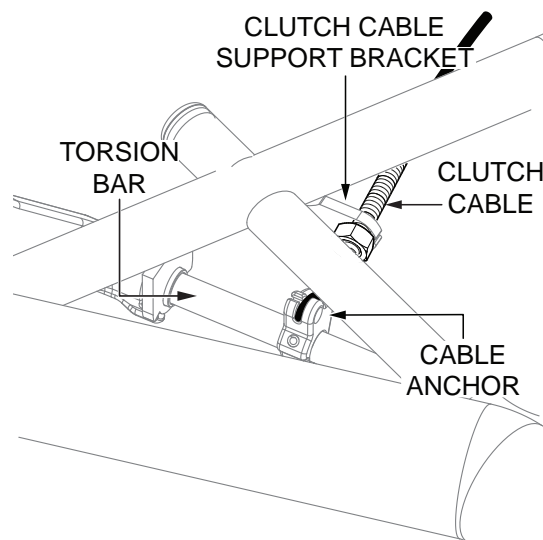

Figure 13. Clutch Cable Attachment (Torsion Bar Anchor and Support Bracket)
- Make sure the clutch cable (Figure 13) is attached to the torsion bar cable anchor and clutch cable support bracket.